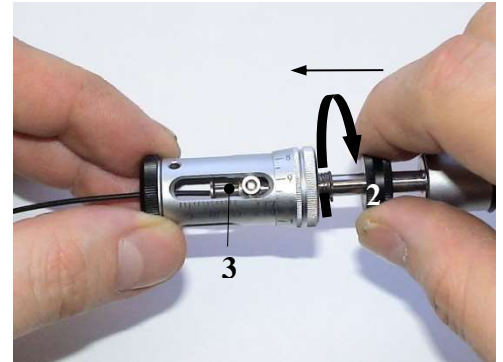

Fig. 9 Stopper setting
- Release the length setting ring gauge **(2)** by twisting it in the direction of the arrow, pull it as far back as it will go and fix into position. **(Fig. 9)**
stopper **(3)** is touching the cable. Then fix the length setting ring gauge **(2)** into position by twisting it in the opposite direction **(Fig. 9)**.